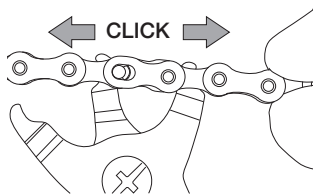

Fig.9
- Press the callipers until you hear a click indicating that the two pins have been positioned in the smaller diameter slot area (Fig. 9).